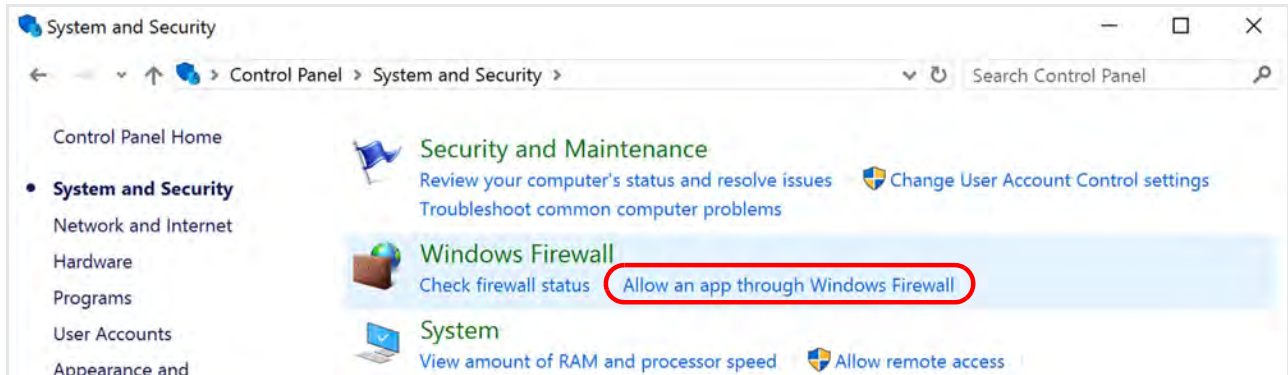

Figure H.3: Allow an App Through Windows Firewall
3. From *System and Security*, select **Allow an App through Windows Firewall** (Figure H.3). The Allowed apps dialog window appears (Figure H.3).